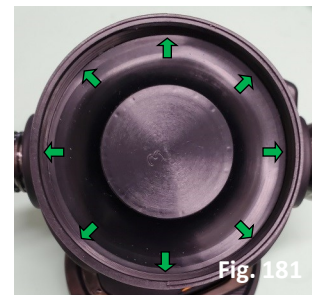

Fig. 181
4. Set your diaphragm carefully in the case, and use a thin dowel to tamp the edges down into the seating groove. There should be a perfect fit of the diaphragm in this groove, and the diameter of the diaphragm should be exactly the size of the case (Fig. 181). If the diaphragm appears slightly small, see step 6 on the next page.